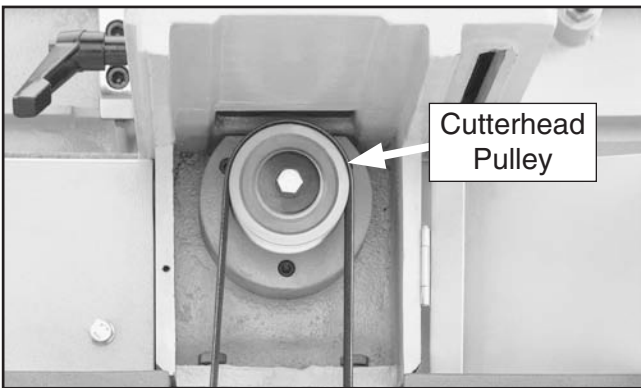

Figure 42. Cutterhead pulley.
2. Open the hinged pulley guard at the back of the machine to gain access to the cutterhead pulley shown in **Figure 42**.
5. Open the hinged cutterhead guard at the back of the machine to gain access to the cutterhead pulley shown in **Figure 42**.